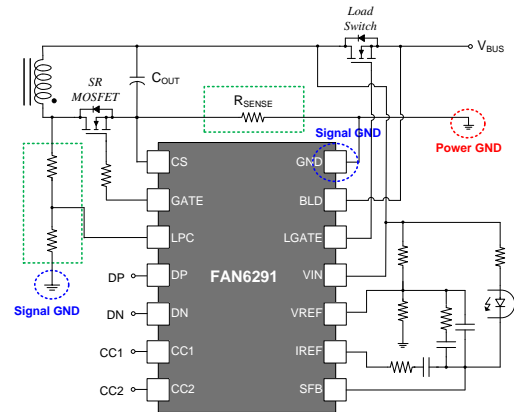

Figure 32 Power and Signal Ground on the Secondary-Side
- The main power flows through Q₂, C_{OUT1}, C_{OUT2} and R_{CS}. This power path should be separated with signal grounds which are connected to FAN6291Q. In addition, it is recommended that power ground is directly connected to Y-cap. Refer to Figure 32.